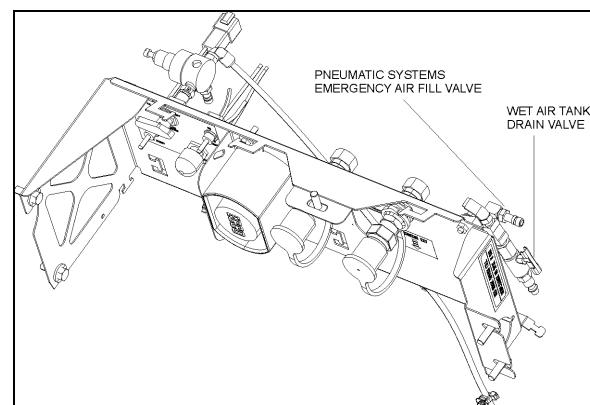

FIGURE 44: REAR VALVE LOCATION ON H3 SERIES12162
A remote valve located in engine compartment and accessible through engine R.H. side door is used to **purge daily** (Figure 44).
**The rear valve** is located in engine compartment and accessible from engine R.H. side door (Figure 44).